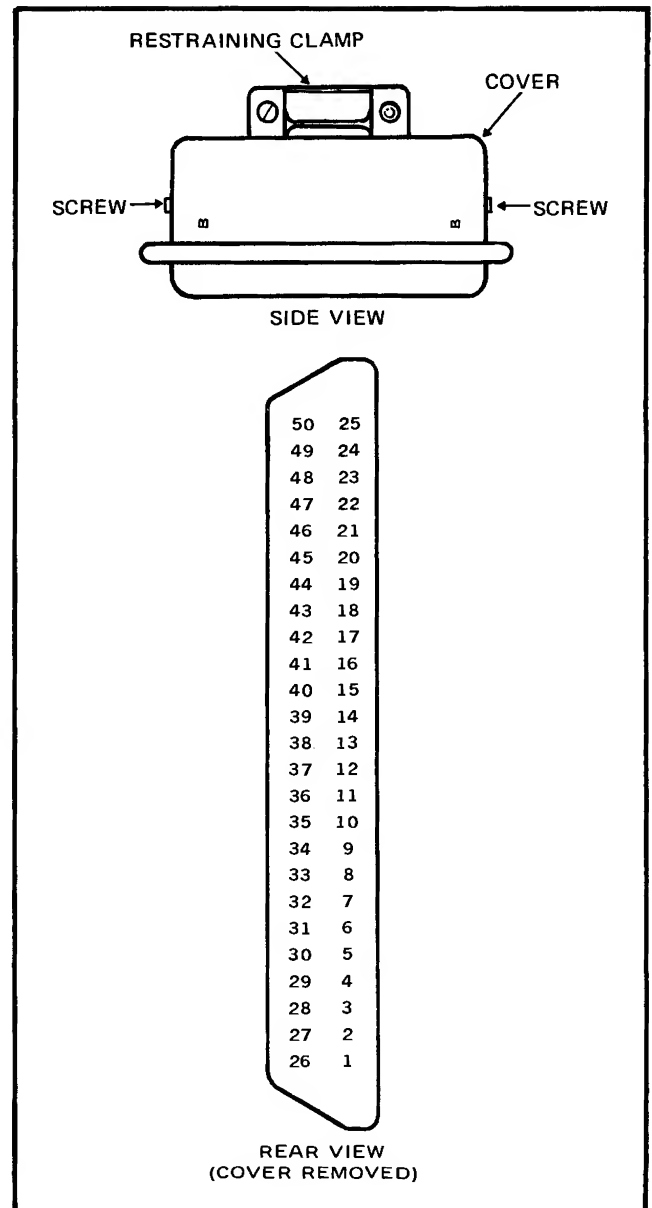

Figure 6-1. PROGRAMMING MATING CONNECTOR
- d. Solder the wiring to the appropriate terminals of the connector. Refer to Figure 6-1 for terminal locations.
6-2. The Extender Card shown in Figure 6-1 is available as an Accessory for the FLUKE 4200 series power sources. This accessory permits the printed circuit boards in the power source to be extended for servicing. The Extender Card can be obtained by ordering it under FLUKE PART NO. 292623.